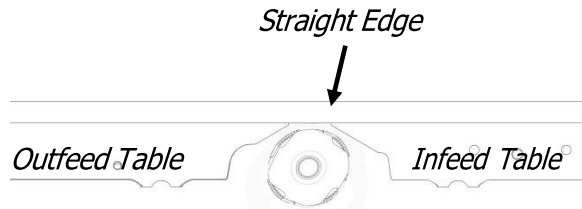

Figure 41: Straight Edge
STEP 2: Place straight edge across infeed and outfeed tables as in **FIG. 41**. If inserts interfere with straight edge, rotate the cutterhead.